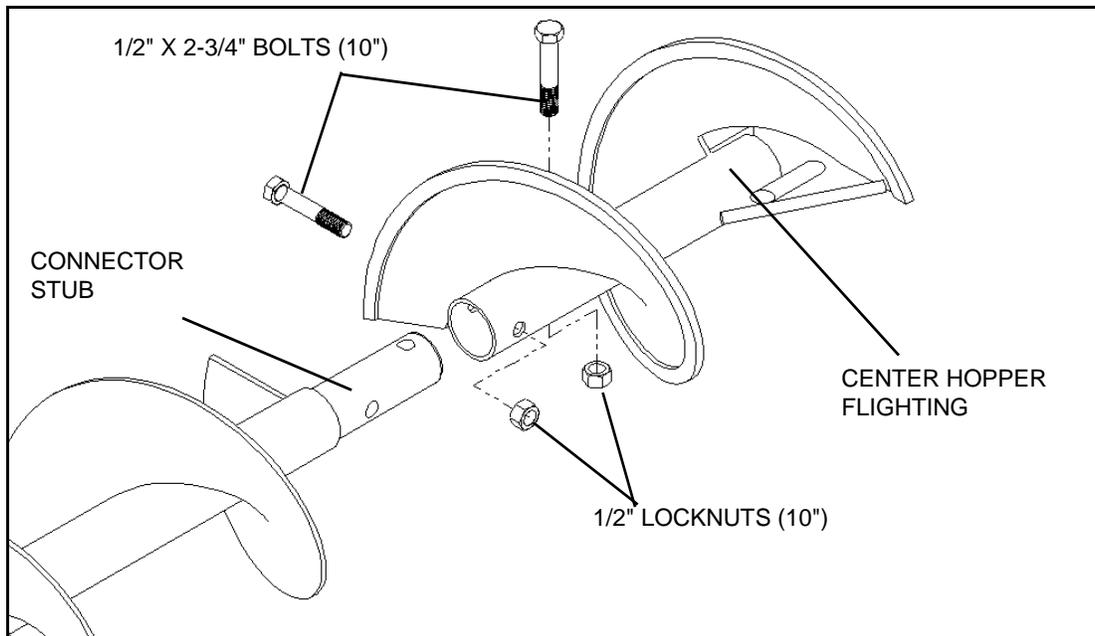

Figure 3.11
1. Attach the short center hopper lighting piece to the appropriate end of underfloor lighting. As shown in Figure 3.11, slide the connector stub into the short lighting piece.